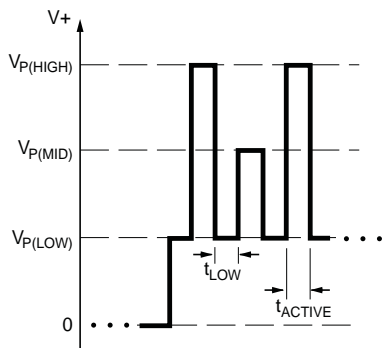

Figure 1. Parameter selection pulse train. This shows the sequence for selecting the register corresponding to key 1, indicated by a single  $V_{PM}$  pulse.
Each programmable parameter can be accessed through a specific register. To select a register, a sequence of voltage pulses consisting of a  $V_{PH}$  pulse, a series of  $V_{PM}$  pulses, and a  $V_{PH}$  pulse (with no  $V_{CC}$  supply interruptions) must be applied serially to the VOUT pin. The number of  $V_{PM}$  pulses is called the *key*, and uniquely identifies each register. The pulse train used for selection of the first register, key 1, is shown in figure 1.